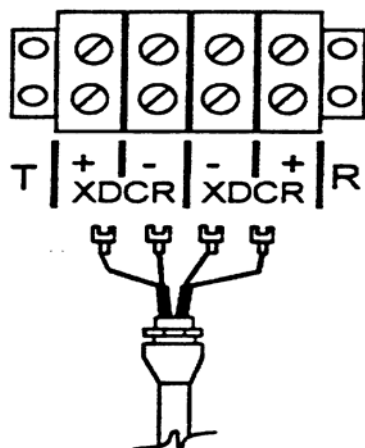

Figure 9
2. The terminals on the transducer cable are coded with wire markings. Connect the appropriate wires to the corresponding screw terminals in the transmitter. See **Figure 9**.